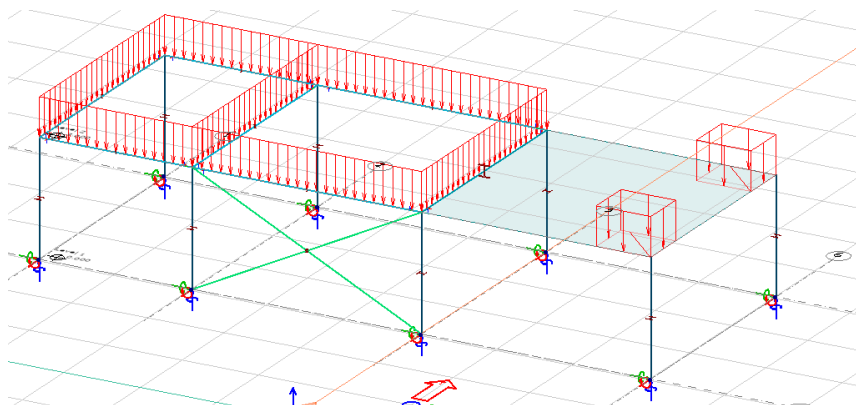

Figure 6-6
5. The model has now been adjusted in FEM-Design and some additional area loads have been applied to the concrete floor. The effect is visible in Figure 6-6.
7. FEM-Design model (at the stage as shown in Figure 6-6) has been updated with the newest .struxml file containing changes made in Revit since the previous export.